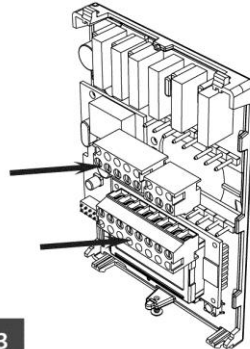

Fig. 3
10. Gently push excess wiring back into hole (fig. 3).
11. Re-Install wiring terminals in their correct locations (fig. 3).